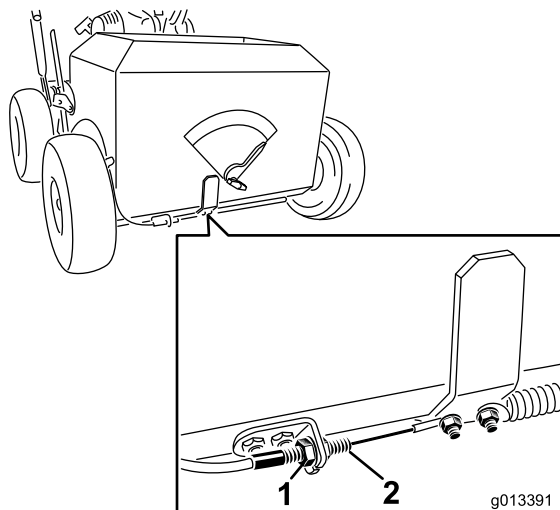

Figure 28
4. Loosen the nuts on the seed-gate control cable (see Figure 28).